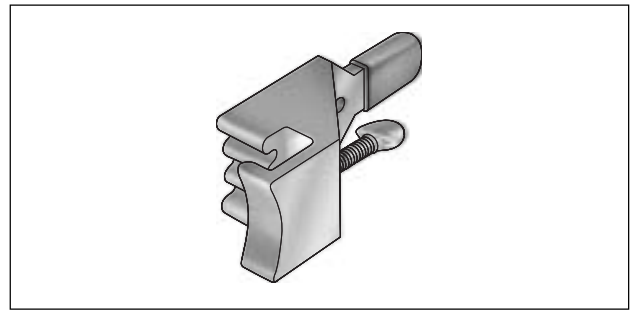

Figure 6-18. Final Drive Sprocket Locking Tool (Part No. HD-41184)
- Lock transmission sprocket with the FINAL DRIVE SPROCKET LOCKING TOOL (Part No. HD-41184). See Figure 6-18.